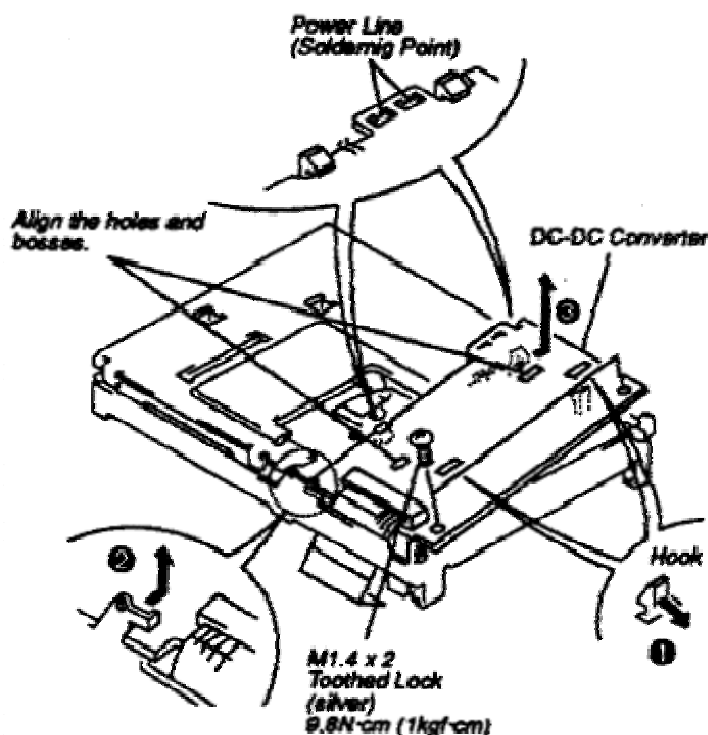

Fig. 4-5 DC-DC Converter Replacement
- a. Remove the two screws (M1.4x2 Toothed Lock/silver) securing the DC-DC Converter to the Battery Case Ass'y. (Refer to Fig. 4-5)
- b. Desolder the power line connected the Battery Case Ass'y on the DC-DC Converter. They can be separated from each other. (Refer to Fig. 4-5)